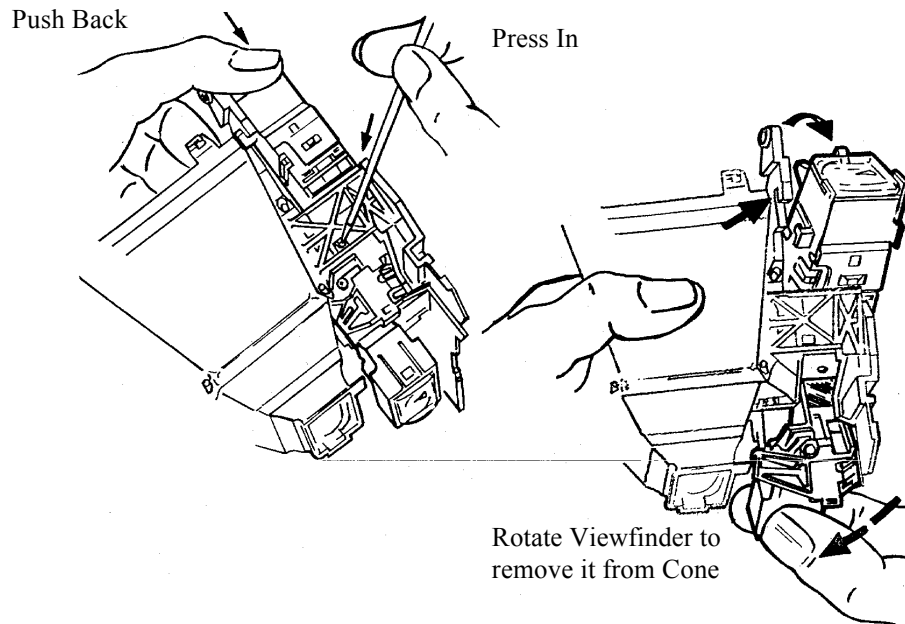

Figure 4-27 Removing Viewfinder Assembly
- b. With front of Camera facing away from you and looking down on it, press down with greenstick at point near top of X-shaped ribs shown in Figure 4-27 to release tab. Viewfinder will slide forward (toward front of camera).